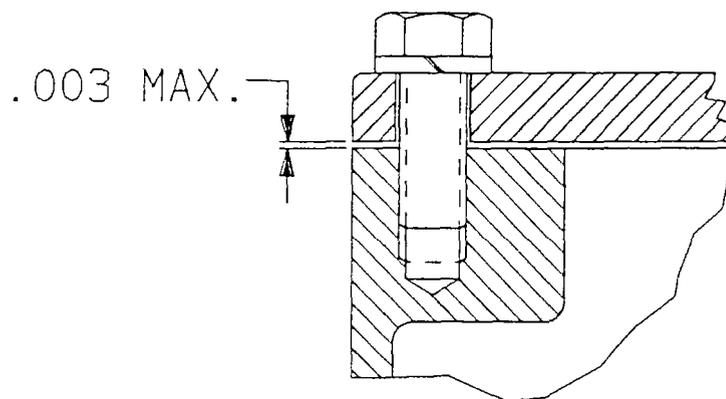

FIGURE 4
- (WEEKLY) 5. () Headlight switch cover is properly installed with All bolts and lock washers in place and tight (Figure 4).